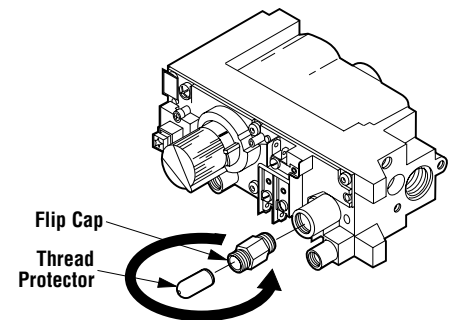

Figure 26
Step 5. Honeywell Systems - See *Figure 26* and the instructions provided with the kit. Remove the black thread-protecting cap. Remove the conversion flip cap by turning it counterclockwise. Invert the flip cap so that the letters associated with the desired gas type are positioned closest to the valve body.